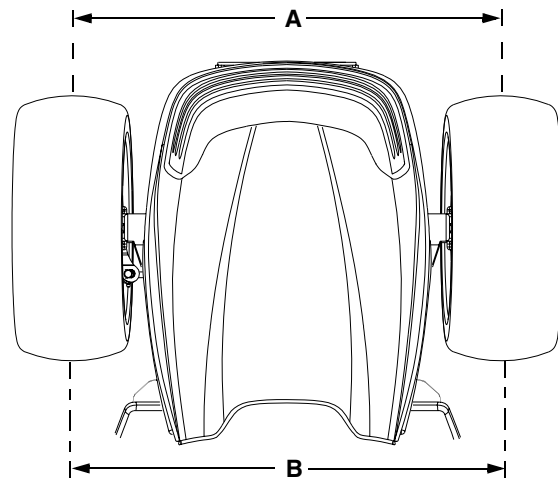

Figure 30
- Measure and record the distance 'A' between the two marks. See Figure 30.
- Roll the tractor forward or rearward until the marks are at the horizontal center line at the rear of the wheels. Measure and record the distance 'B' between the marks. See Figure 30.